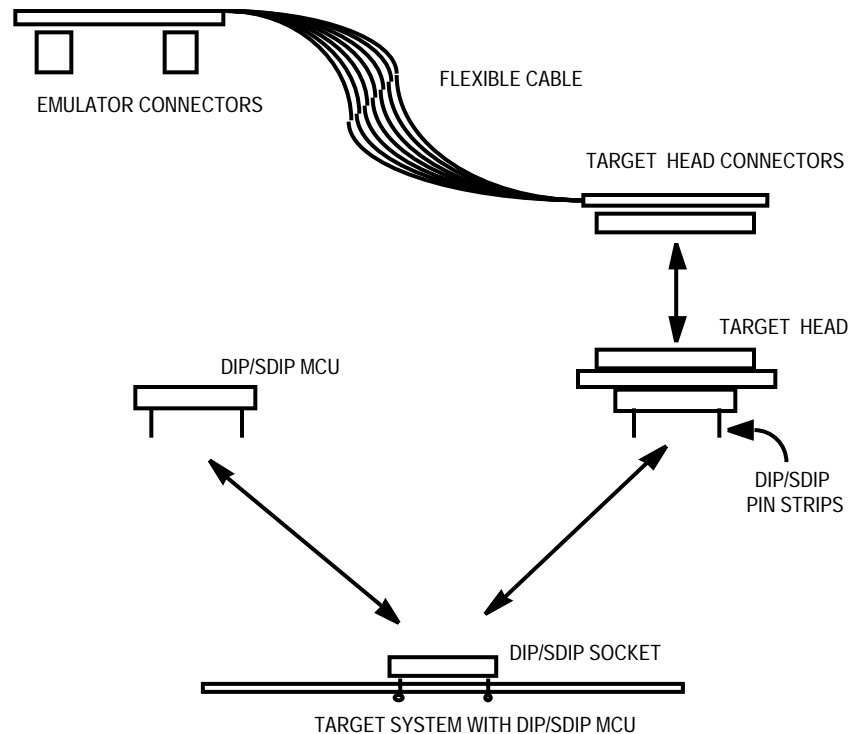

Figure 3. DIP or SDIP Target Cable
This technology is of the traditional through-hole-plated (THP) style. Sockets that take the same pin formation as the integrated circuits (IC) are cheap and readily available. For this type of technology, it is appropriate to use a simple plug and socket arrangement. Thus the user can insert and remove the target cable repeatedly. In addition, if required, the target socket can hold the target IC for final debugging and verification. **Figure 3** illustrates a typical arrangement.